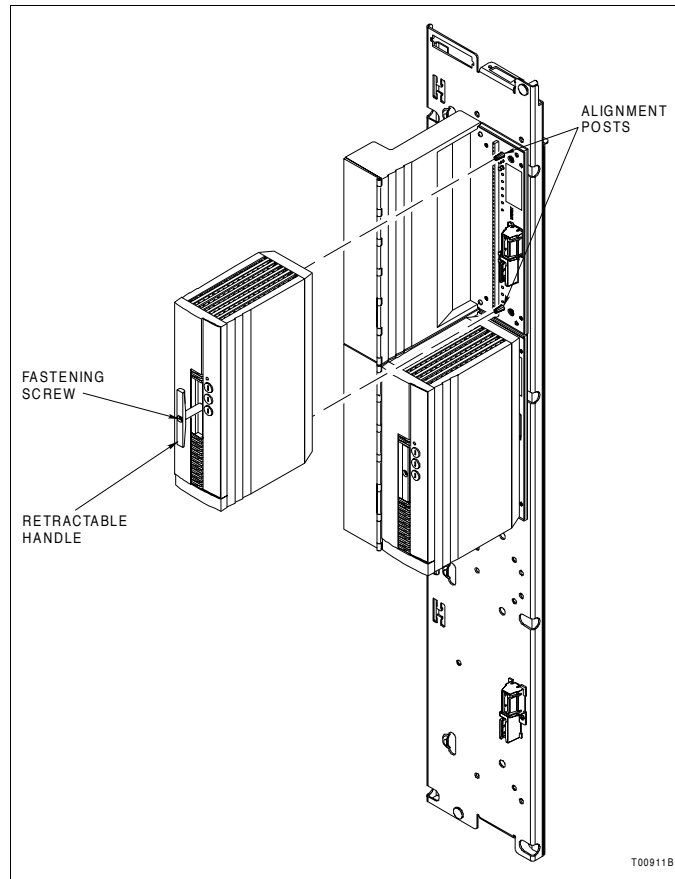

Figure PR28-1. I/O Module Removal
- ☐  2. Loosen the captive front panel fastening screw (Fig. PR28-1).